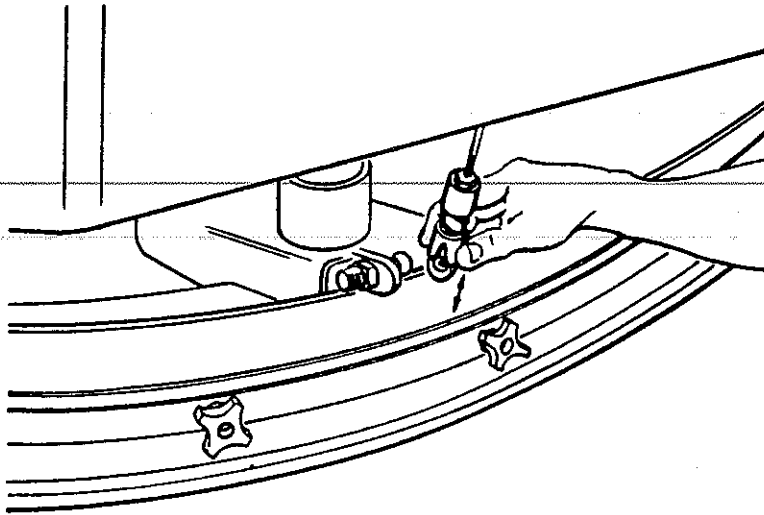

Figure 4-39. Rear Squeegee Disconnect
6. Release the quick-disconnect at the back of the rear squeegee, see figure 4-39.